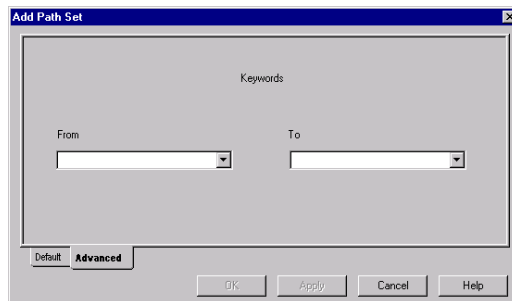

Figure 2-3. Add Set Dialog Box
3. Click the *Advanced* tab (Figure 2-3).